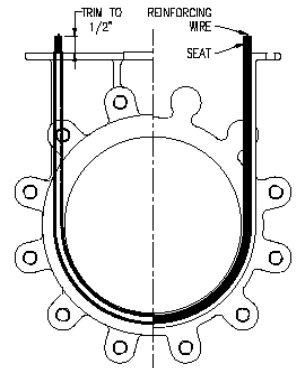

Figure 4
5. Push the seat down until it reaches the bottom of the valve, keeping both ends of the seat extending equally from the top of the valve as shown in Figure 4.
8. Trim the remaining material at the top of the valve body approximately 1/2" above the mounting flange per Figure 4.